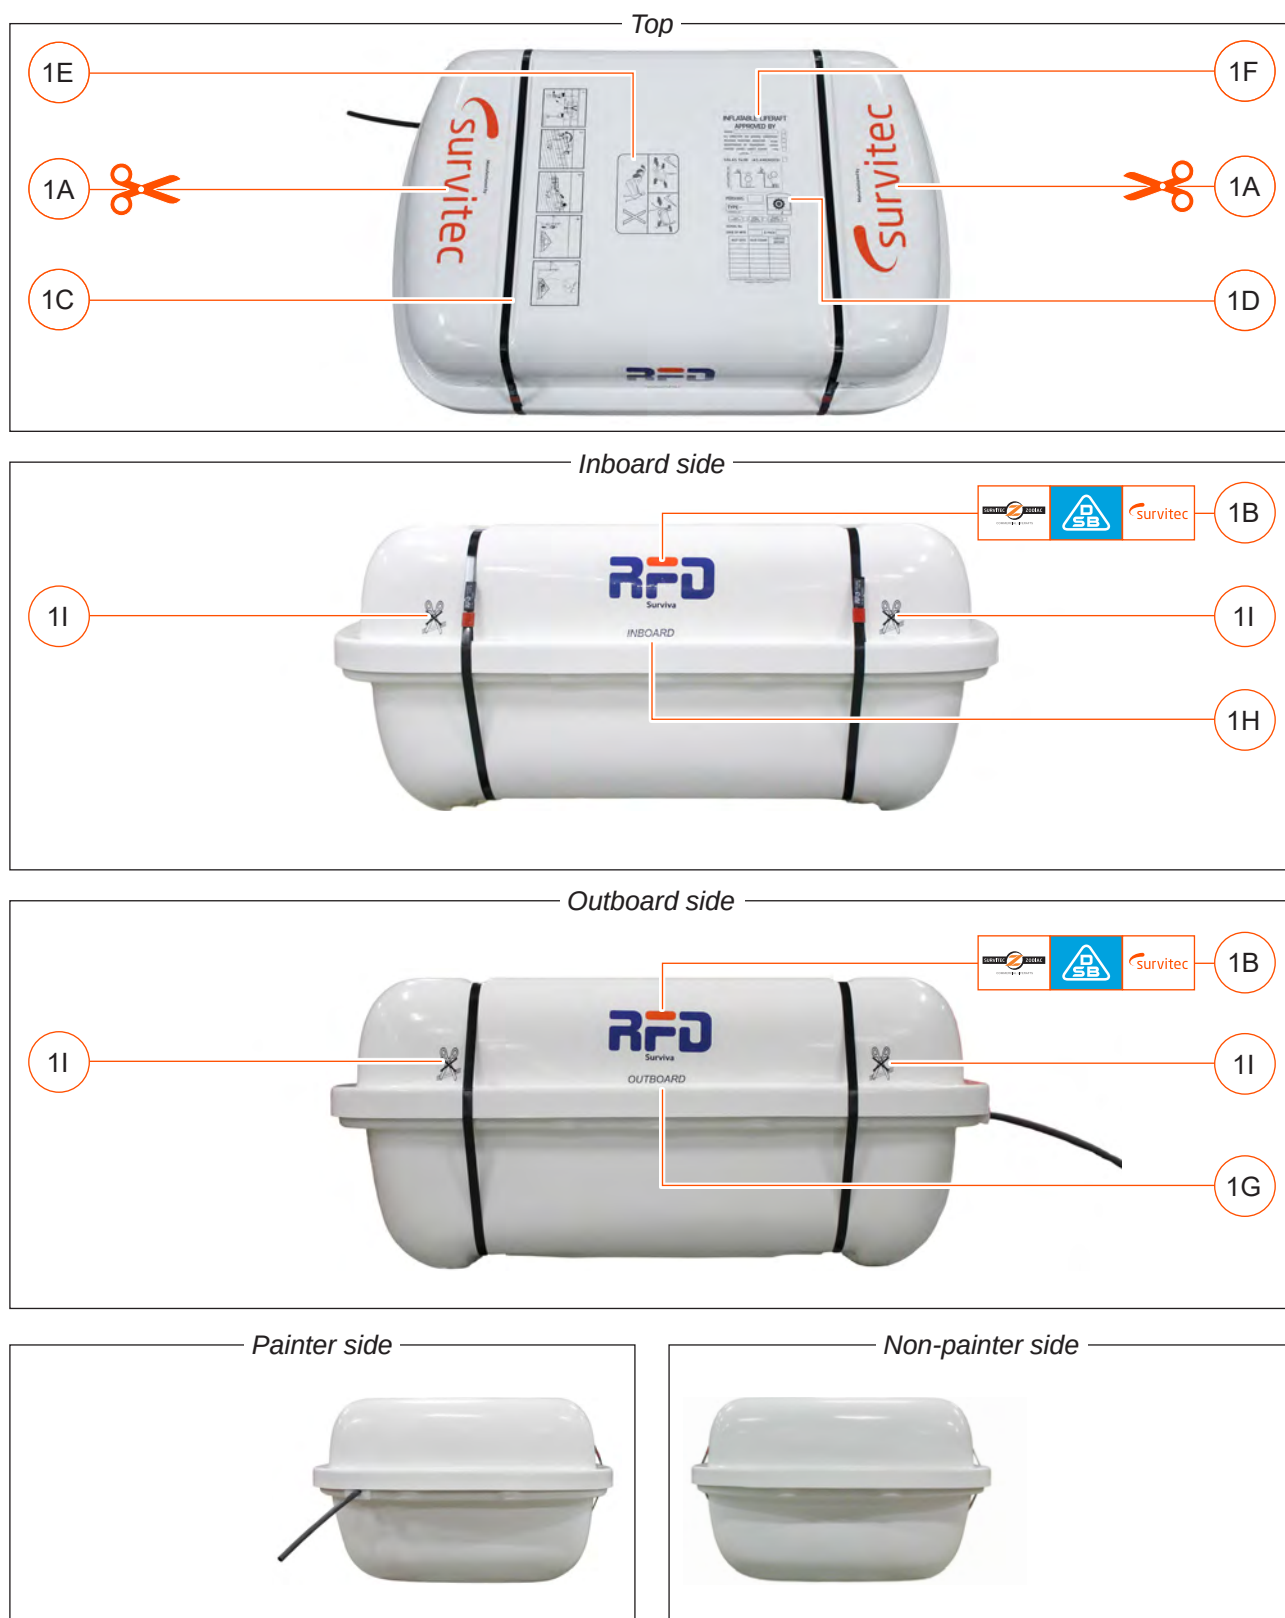

Figure 14
- Mk 18 size 3. Refer to **Figure 14** for label positions.